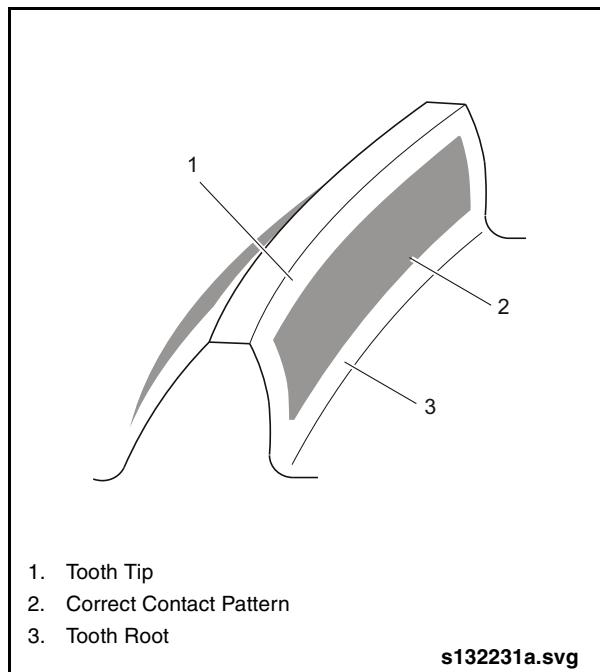

Fig. 2-72: Contact Pattern on Crown Gear
3. Check the contact pattern. See “Fig. 2-72: Contact Pattern on Crown Gear” on page 62.